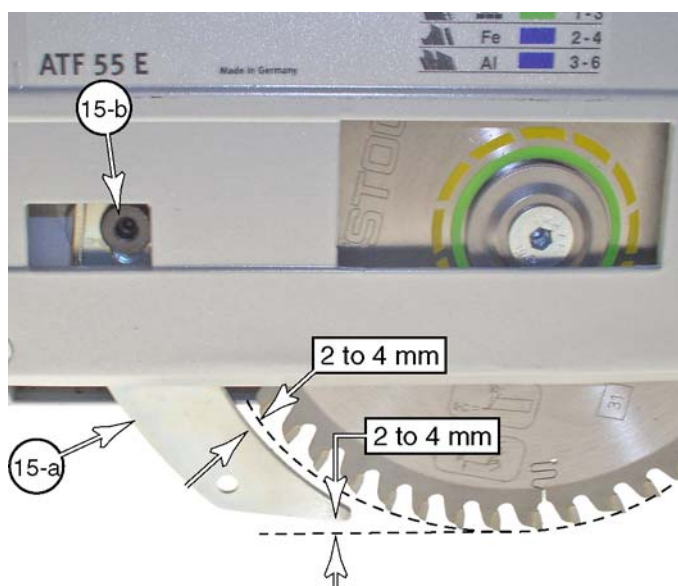

Figure 15
4. Move the riving knife to achieve the clearance from the blade as shown in figure 15.